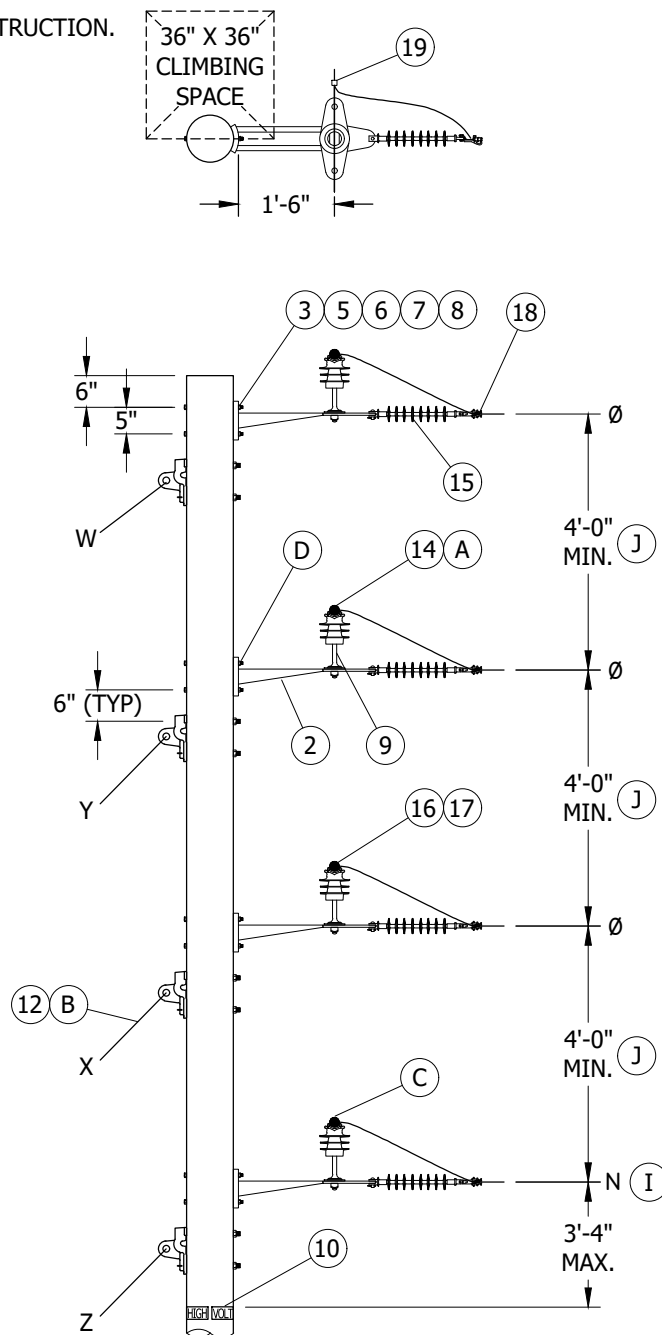

FIGURE 2
- (A) USE CLAMP TOP LINE POST INSULATORS AND CLAMPS FOR 1033 KCMIL ACSR.
- (B) INSTALL GUYS IN ORDER INDICATED ON FIGURE 2 (W, X, Y, Z). FOR COVERED WIRE SPACING OF 2 FEET, SPACE GUY ATTACHMENTS MIDWAY BETWEEN PHASES. FOR BARE WIRE LEAVE GUY ATTACHMENTS AS SHOWN. (a)(b)
- (C) SUBSTITUTE A 12KV GRAY INSULATOR WITH A WHITE 12KV INSULATOR FOR NEUTRAL IDENTIFICATION.
- (D) INSTALL DOUBLE COIL SPRING WASHER SO IT CONTACTS BRACKET.
- (E) IF A WHITE LINE POST INSULATOR IS NOT AVAILABLE FOR NEUTRAL, THE "PN" SIGN SHALL BE USED TO IDENTIFY THE NEUTRAL.
- (G) TO BE USED FOR NEW CONSTRUCTION ONLY. (d)
- (J) MAINTAIN 4 FEET MINIMUM FOR ALL BARE WIRE CONSTRUCTION. 2 FEET MINIMUM SPACING FOR COVERED WIRE ONLY.